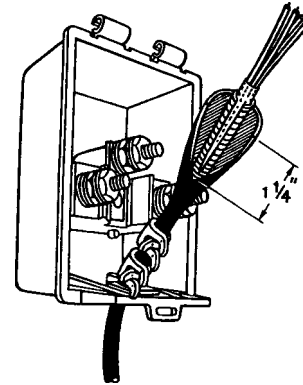

FIGURE 4
4.01 Position the spring clamps (refer to chart) over the service wire. See Figure 4.
4.02 Cut open the outer jacket and shield of the service wire with a single slit approximately 1-1/4" long. **The inner core sheath or core wrapper must not be slit in order to protect the primary conductors from damage.** It may be necessary to displace the grommet during SERVI-BOND Shield Connector installation. See Figure 4.